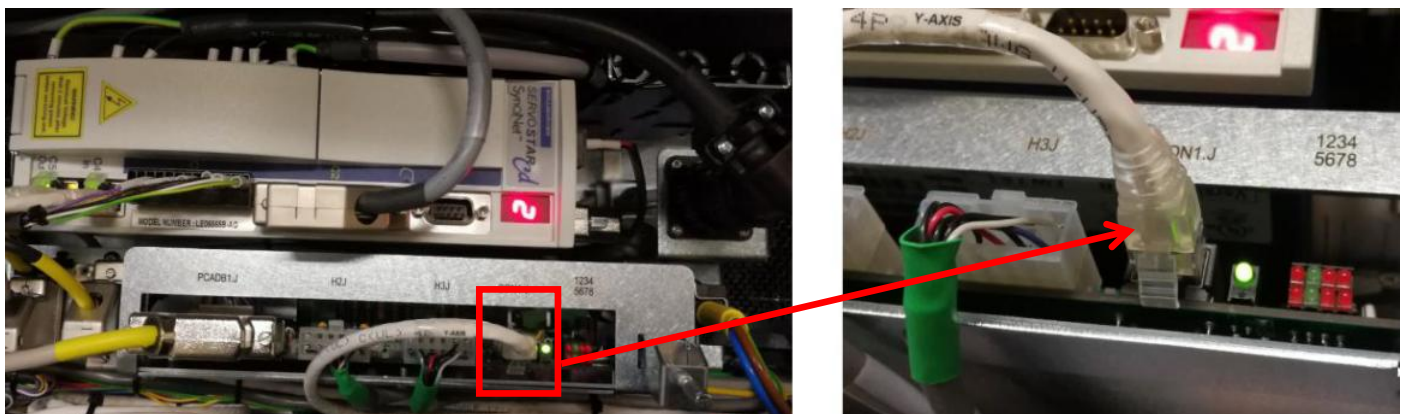

Figure 10
13. Disconnect Y axis Interlock Cat5 Cable from CON1J as Figure 10.